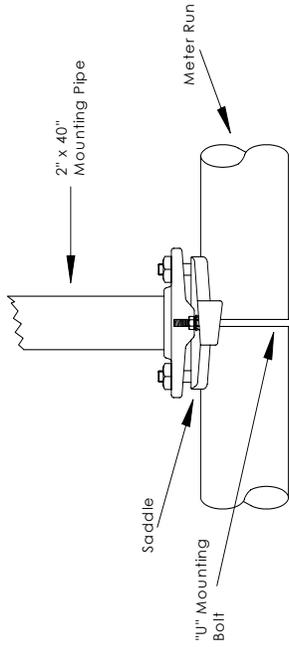
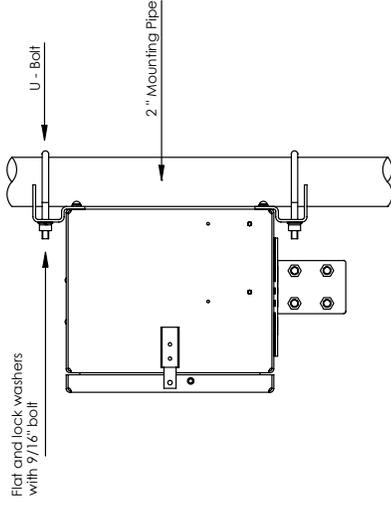

Figure 1 Saddle Mount
Figure 2 Pipe Mount
4. Install bracing for unit; (pipe saddle, direct mount, pipe driven in ground). Attach U-bolts to 2" pipe using silicone spray or Teflon tape to prevent galling. (See Figure 1 & Figure 2)